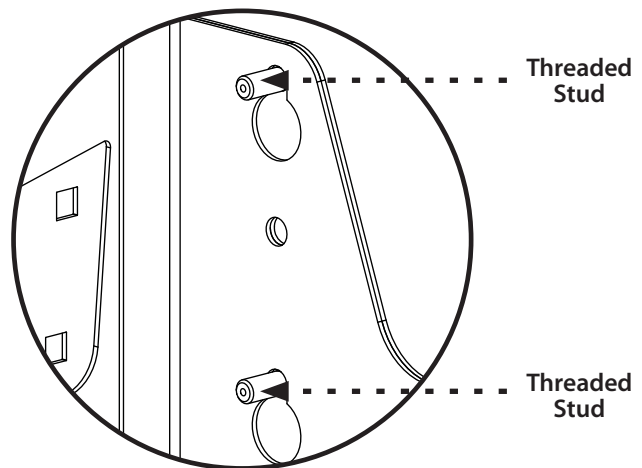

FIG. 4
Lift the Mounting Bracket (F) up and over the Cart Body's (Q) threaded studs and slide the Mounting Bracket (F) down so that the threaded stud is snugly inside the smaller section of each keyhole [FIG. 4].